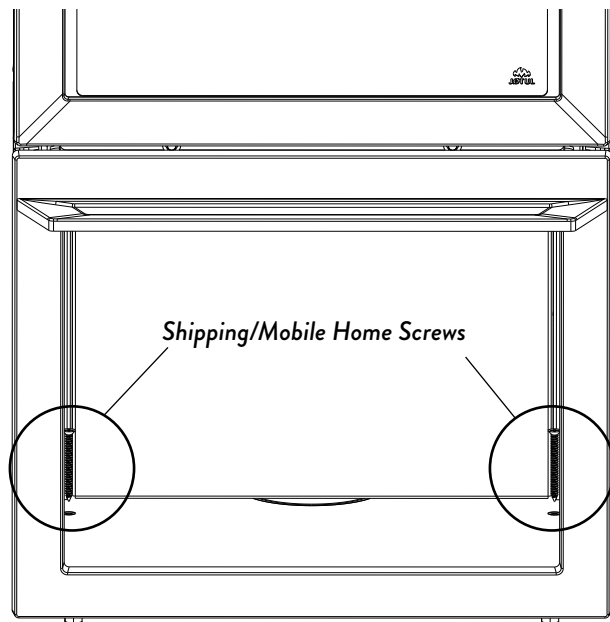

Figure 5.4
5. Remove the two lag screws from the rear of the base of the stove. Retain these screws for mobile home installation if needed. See Pg. 9 figs. 5.4 and 5.5.